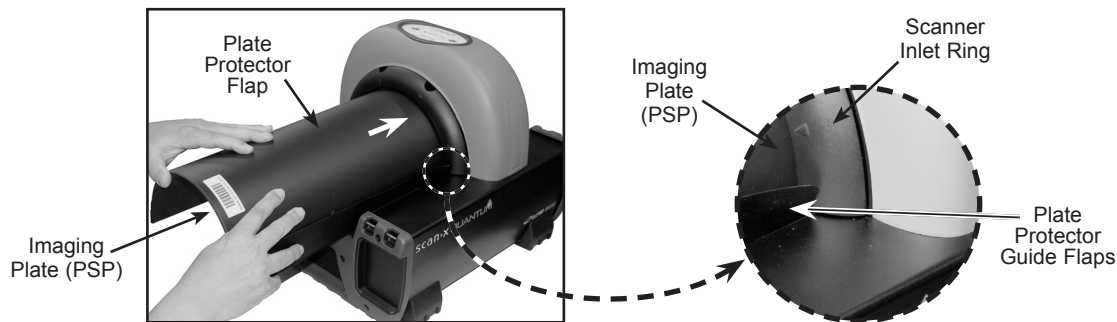

Figure 10. Feeding an Imaging Plate
3. As shown by Figure 10, position the Plate Protector containing the PSP against the curved inlet, surface and hold it flush against the scanner inlet. A Plate Protector containing an exposed PSP narrower than 14 inches may be centered on the scanner inlet, making sure that it is aligned.